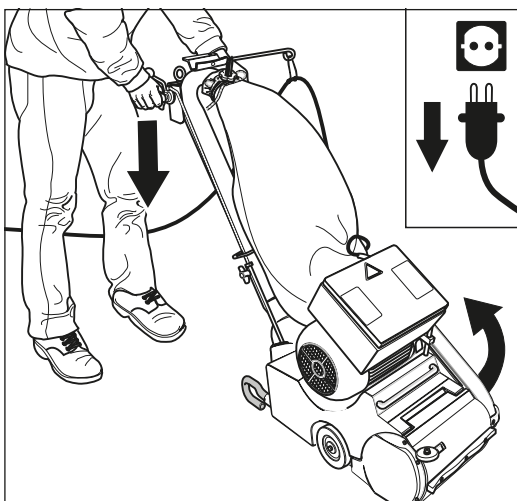
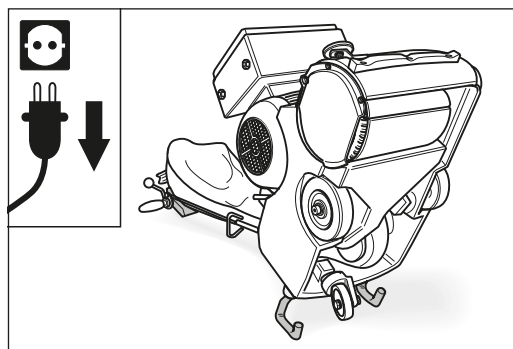

Fig. 28 Pull the power plug out of the socket and tilt the machine backwards over the safety guards.
Fig. 29 Place the machine carefully on the floor. **Ensure that the machine is standing securely!**
- 4 Tilt the machine backwards over the safety guards (fig. 28) and place it down carefully on the floor (fig. 29). **Ensure that the machine is standing securely!**